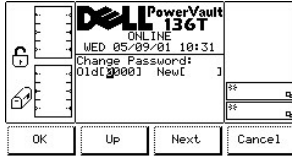

Figure 82. Setup > Utils > Secure > Change Password Dialog
- 1 If the button beneath the **OK** softkey is pressed, the old or new password is entered. Refer to Figure 82.